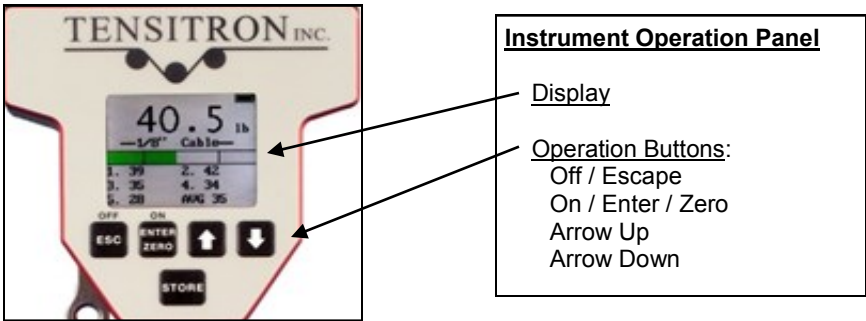
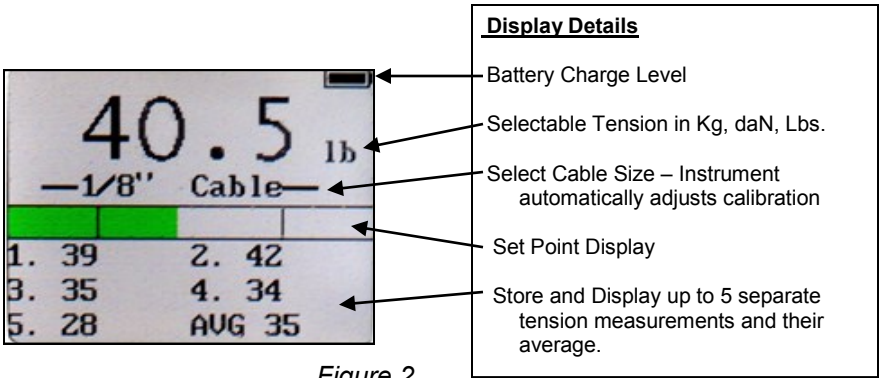

Figure 1
Figure 2
Figure 1 and Figure 2
6. **SETPOINT MENU.** This feature allows a graphical representation of the applied tension to be displayed on the main display beneath the tension units. A colored bar will advance and retract in conjunction with increasing or decreasing tension values. Additionally the user can define their safe-operating-tension range, which will then display in green. Values under this operating range will display in amber and tensions above the safe operating range will indicate in red. *Figure 2*